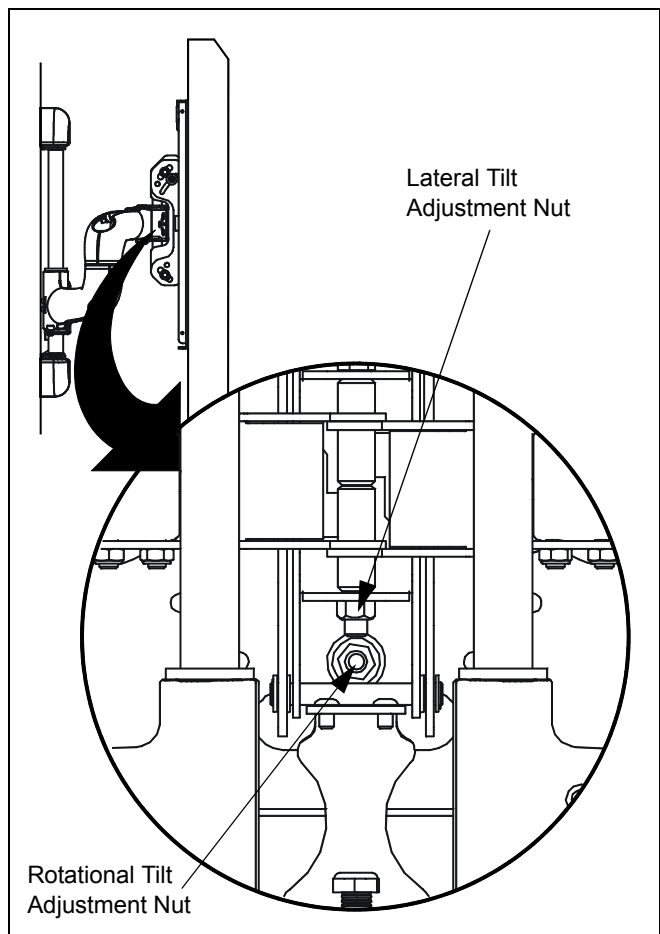

Figure 10: Lateral and Rotational Adjustment
1. Using a 9/16" wrench (not provided), slightly tighten or loosen lateral tilt tension adjustment nut (See figure 10).
1. If necessary, loosen or tighten bottom rotational tilt tension adjustment nut (See figure 10).